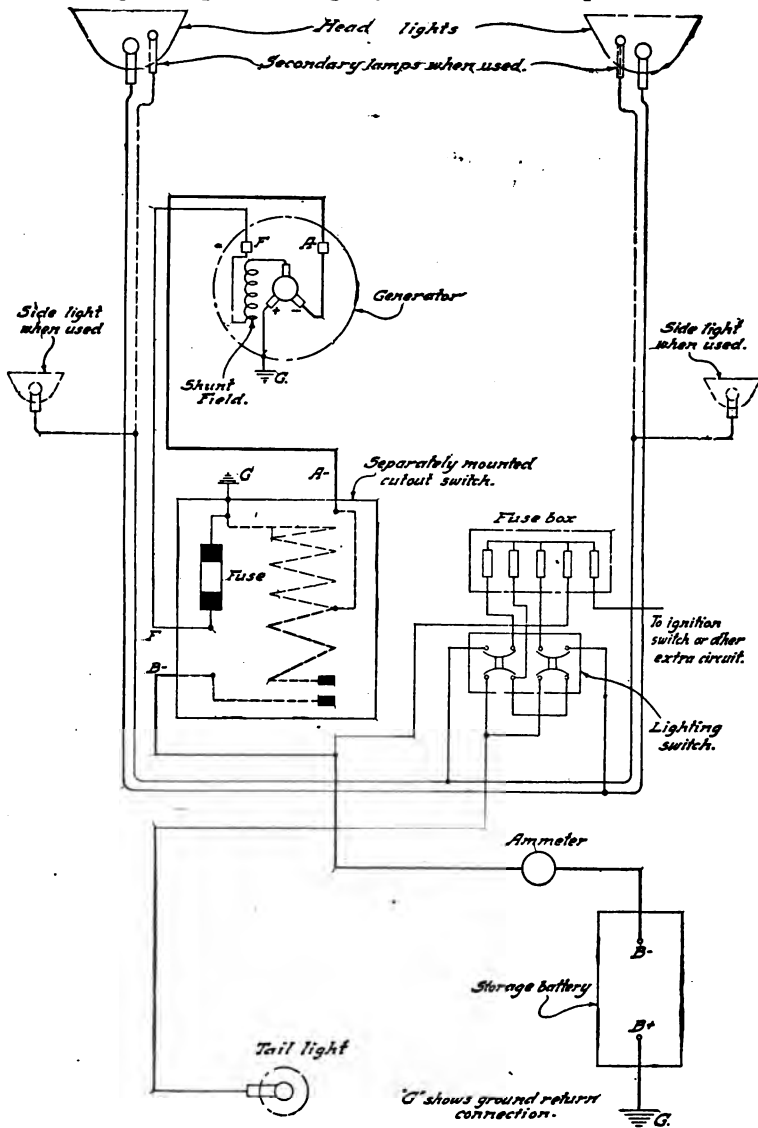

Fig. 365. Diagram of Connections for Complete Westinghouse System with Separately Mounted Regulator
**Battery Cut-Out.** The type of automatic cut-out used with the type of generator employing the third-brush method of regulation is illustrated in Fig. 364. This may or may not be combined with a starting switch mounted on the engine side of the dash or some similar location. Fig. 365 is a wiring diagram showing the connections of the separately mounted cut-out with the third-brush generator. The cutting-in speed varies from five to ten miles per hour on high gear, varying with the gear ratio and wheel diameter of the car. This speed may be determined by running the car slowly and speeding up very gradually, meanwhile observing the increase in speed on the speedometer. The point at which the contacts close